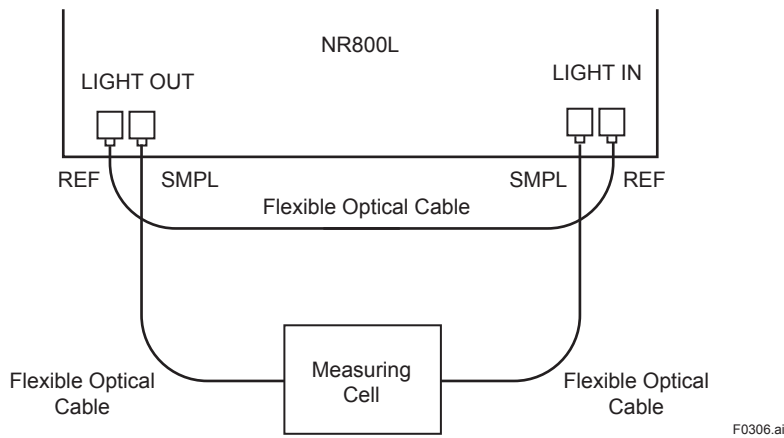

Figure 3.6 Wiring flexible optical cables
See figure 3.6. There are two optical paths necessary to be connected: one for sample (SMPL) and one for reference (REF). Use optical fiber(s) to connect between LIGHT OUT port and LIGHT IN port for each path.
(2) Connection of the optical beam path for sample
Two optical fiber cables are used to link the sample path. In the same way as (1), connect one side of a cable to the female connector of SMPL on the LIGHT IN, and one side of another cable to the female connector of SMPL on the LIGHT OUT. Connect the other side of each cable to the measuring cell. (Refer to Figure 3.6)